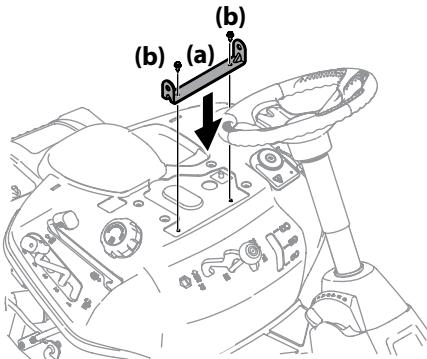

Figure 2-7
3. Align the seat bracket (a) in place over the holes from where the self-tapping bolts (b) were removed, as shown in Figure 2-7.